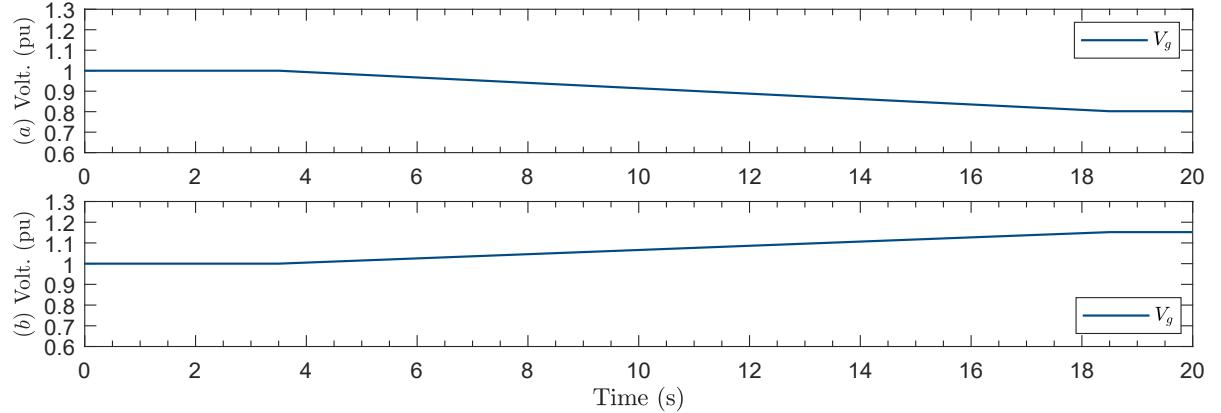

Fig. 13: Ramp changes in the grid voltage
- (a) **Test 18:** From 230V to 185V in 15s. -See Fig. 13(a).
- (b) **Test 19:** From 230V to 270V in 15s. -See Fig. 13(b).